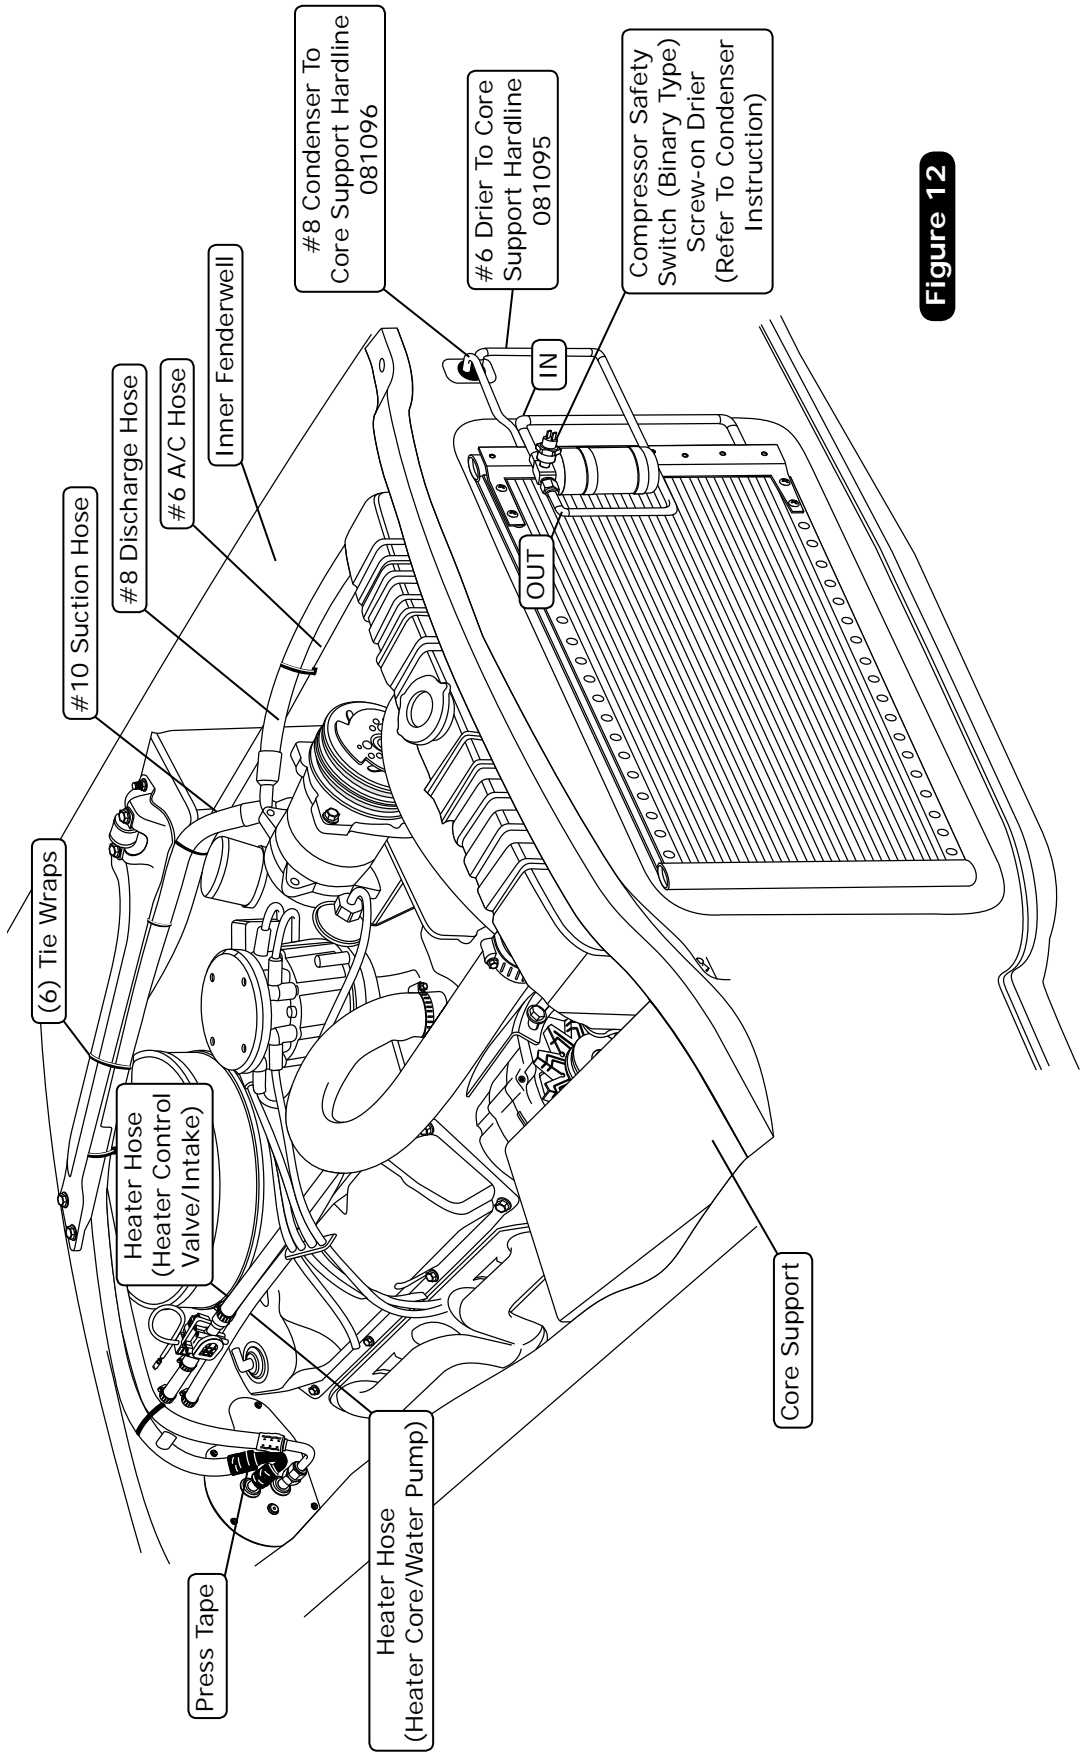

Figure 12
1. Locate the #8 compressor A/C hose. Lubricate (2) #8 O-rings (See Figure 10, above) and connect the 45° fitting to the #8 discharge port on the compressor. Then route the straight fitting with service port to the #8 condenser hardline coming through the radiator core support (See Figure 12, Page 13). Tighten each fitting connection as shown in Figure 10, above.
2. Locate the #10 compressor A/C hose. Lubricate (2) #10 O-rings (See Figure 10, above) and connect the 90° with fitting with service port to the #10 suction port on the compressor. Then route the 135° fitting to the #10 evaporator hardline coming through the firewall (See Figure 11, Page 12 & Figure 12, Page 13). Tighten each fitting connection as shown in Figure 10, above. **NOTE: Wrap the #10 fitting connections with press tape (See Figure 11, Page 12 & Figure 12, Page 13).**
3. Locate the #6 evaporator/drier hose. Lubricate (2) #6 O-rings (See Figure 10, above) and connect the straight fitting the #6 drier hardline coming through the radiator core support. Route the 90° fitting to the #6 evaporator hardline coming through the firewall (See Figure 11, Page 12 & Figure 12, Page 13). Tighten each fitting connection as shown in Figure 10, above.